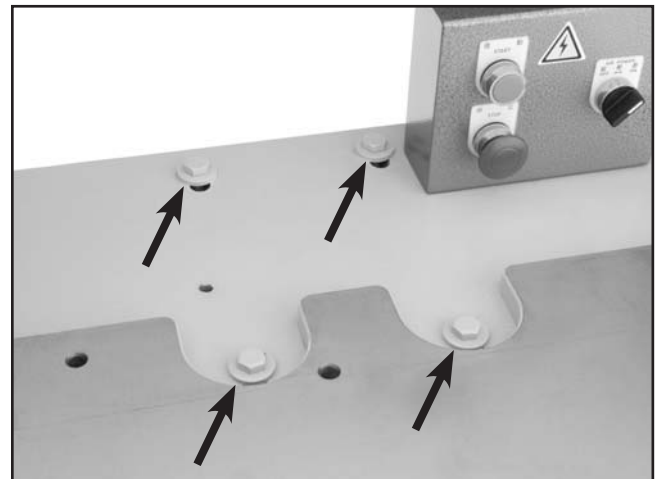

Figure 48. Motor mount bolts.
3. Loosen the motor mount bolts shown in **Figure 48**.